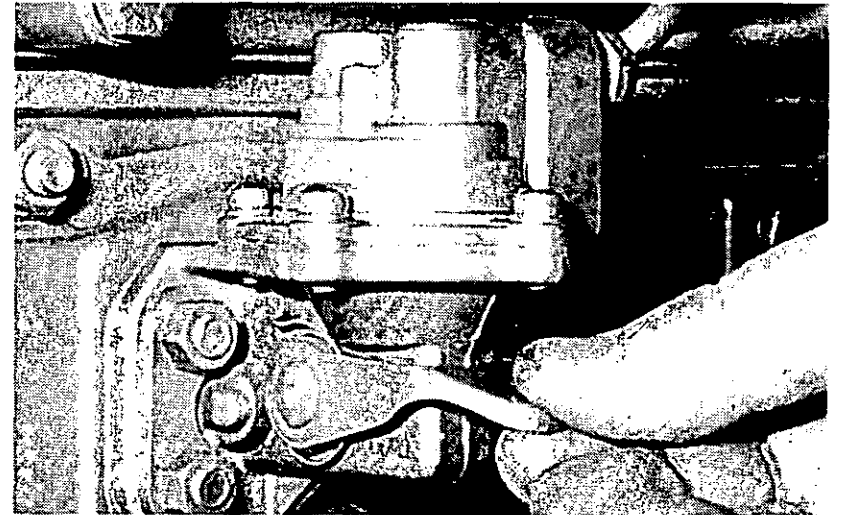

Fig. 15 Priming lever on fuel lift pump
- 2 Operate the priming lever on the fuel lift pump (see fig. 15) until fuel, free of air, comes from the filter vent point. Tighten the banjo connection bolt. If the drive cam for the fuel lift pump is at the point of maximum lift, it will not be possible to operate the priming lever. If this occurs, the crankshaft must be turned through one revolution.